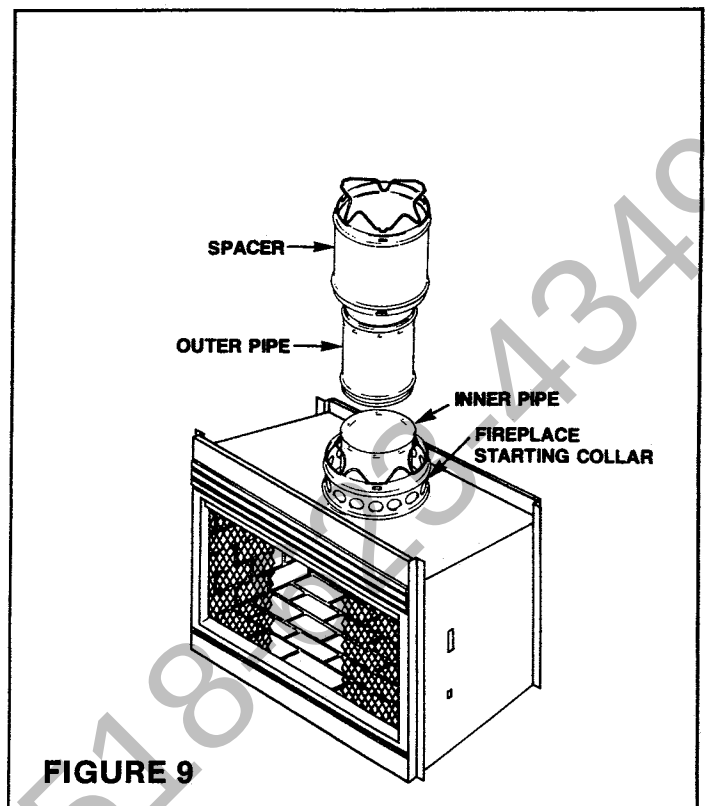

FIGURE 9
STEP 1B: Remove the cover plate from the air inlet (Figure 9). Place the airduct flange over the air inlet, align the holes, and secure the flange with the 2 screws which formerly held the cover plate.
STEP 1: When starting the chimney directly on the fireplace, install the inner pipe section by fitting the male end into the inner fireplace starting collar. Make sure the male end is fully inserted to lock into the lances. (Figure 9).